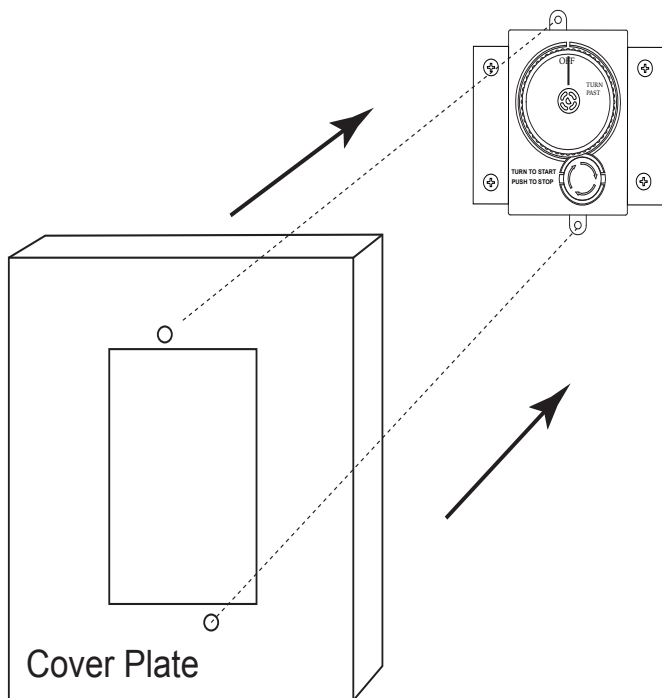

Fig. 5 Installing cover plate.
Step 6: Install the cover plate overtop of the gas timer. Align the holes in the cover plate with the holes in the gas timer (top and bottom) and install the two (2) mounting screws (#10-24x6.25 SS Phillips screws) to secure the cover plate as shown in Figs. 5 and 6.